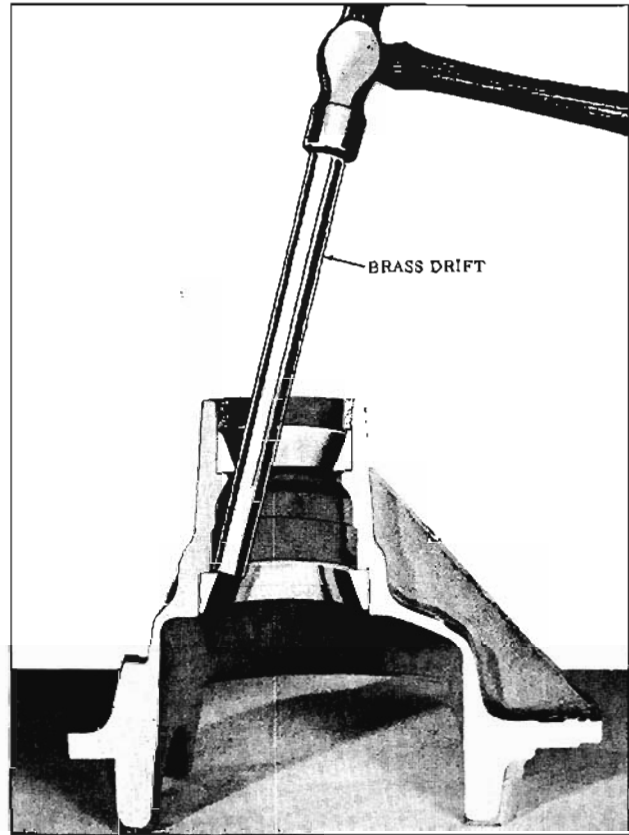

Fig. 10-23 Removing Rear Bearing Outer Race
8. Drive rear bearing outer race from carrier. (Fig. 10-23)